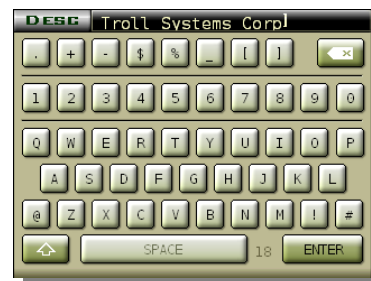

Figure 3-51. Waypoint Description Editing Procedure Screens
- Perform the following functions to edit the waypoint description (refer to Figure 3-51)